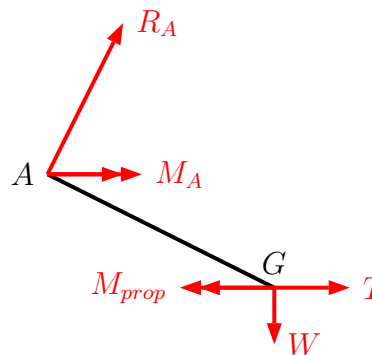

Figure 2: FBD of suspended engine
**Solution:** Start by drawing a FBD. From the FBD shown in Figure 2, let's write the equations of equilibrium.